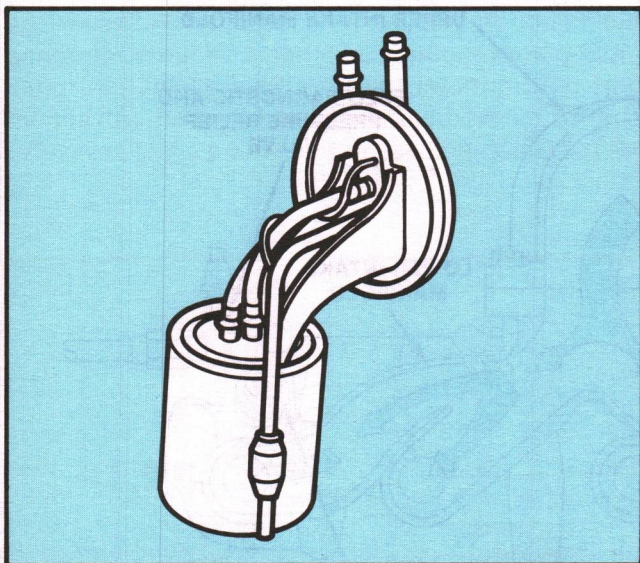

Figure 66. High-Pressure, In-Tank Fuel Pump
- The high-pressure, in-tank system has a high-pressure fuel pump (Fig. 66) located in the fuel tank.